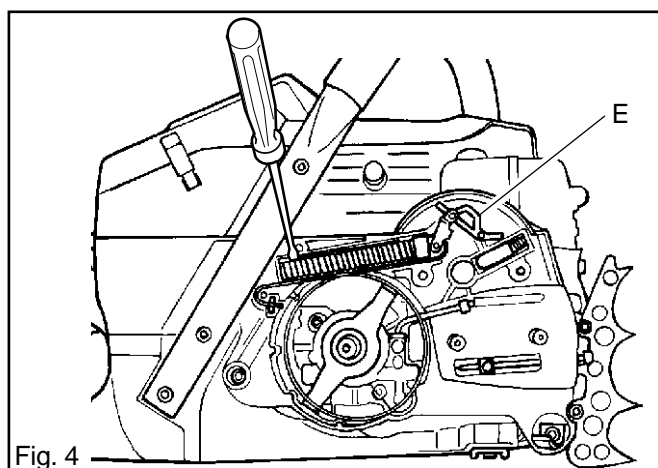

Fig. 4
7. Remove the pressure spring by freeing the rearward end with a screwdriver. See fig 4.
8. Remove the toggle joint (E) with attached brake-strap. See fig 4.